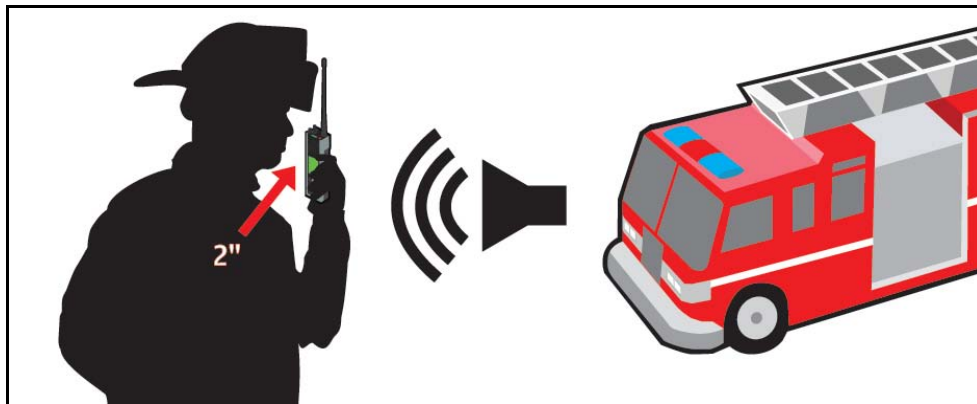

Figure 7-8: Using the Noise Cancellation Feature
- Talk within two (2) inches of primary microphone (see Figure 7-8).
- If possible, face the noise source when talking into the radio (see Figure 7-8).